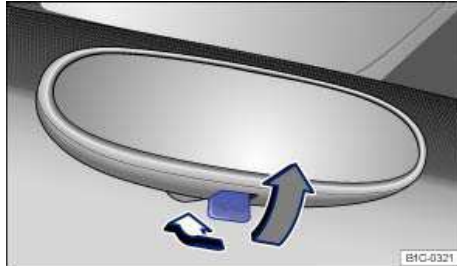

Fig. 83 Manually adjustable inside mirror.
- To adjust to non-glare visibility, move the lever so that it points backward ⇒ fig. 83.